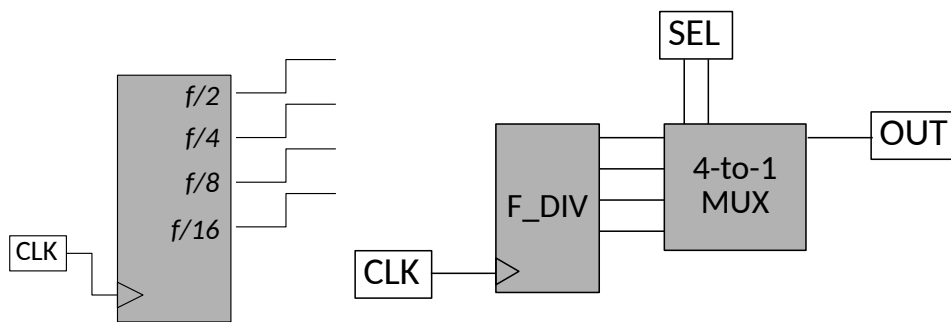

Figure 8: (Left) Solution to Exercise 1 (b). (Right) Solution to Exercise 1 (c).
- (b) See Fig. 8 (left).
- (c) See Fig. 8 (right).